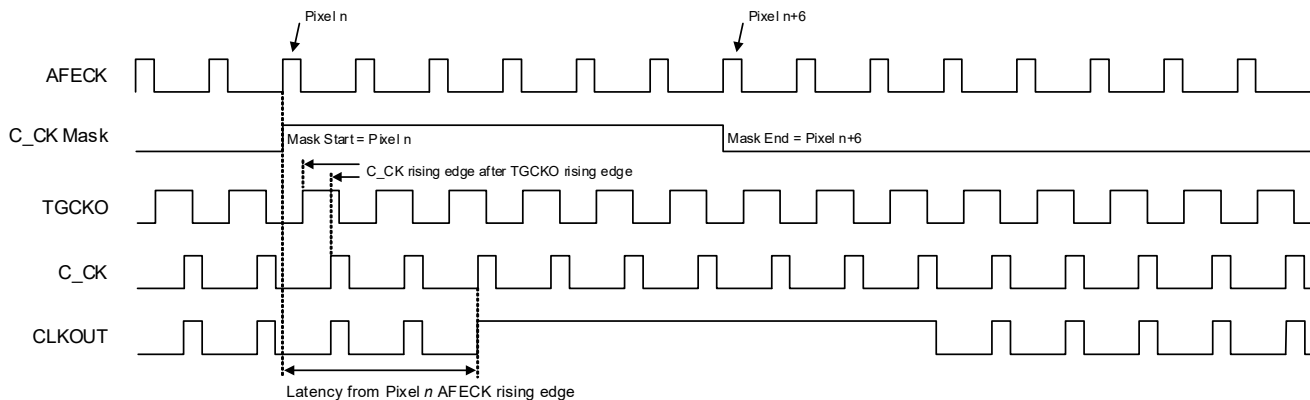

Figure 4-64. Clock Mask Timing—C_{CK} after TGCKO
- If the rising edge of C_{CK} occurs after the rising edge of TGCKO (each measured from the rising edge of AFECK), the mask is effective from the third C_{CK} rising edge following the Pixel *n* AFECK rising edge, as shown in Fig. 4-64.